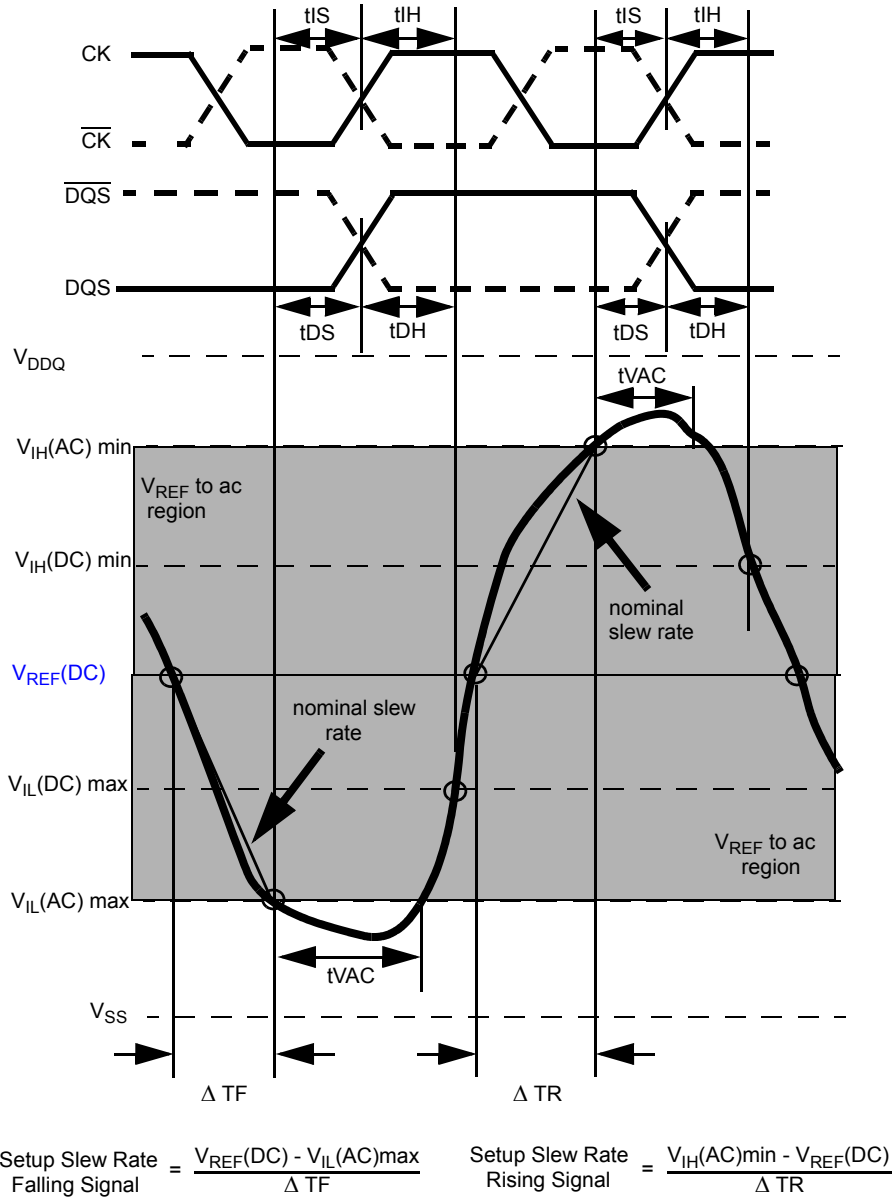
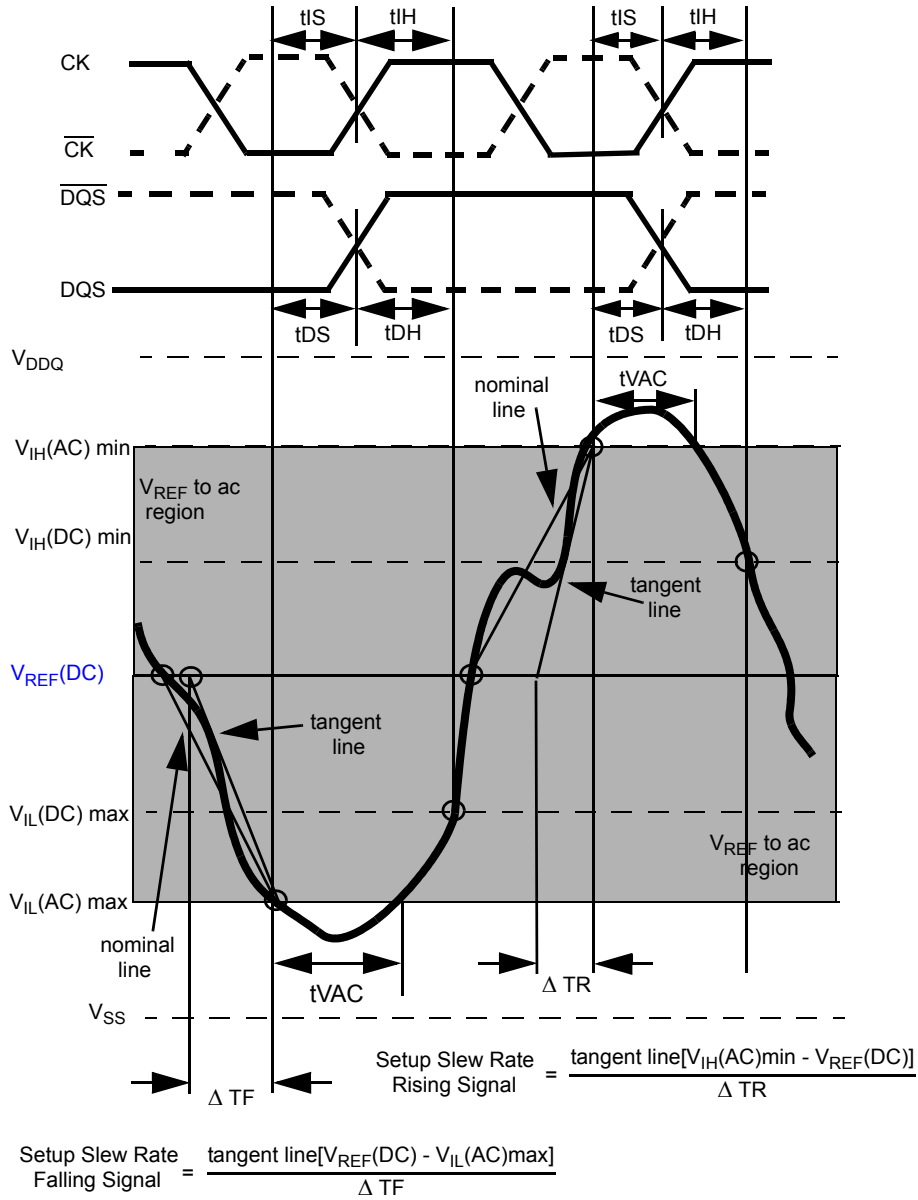

Figure 21. Illustration of nominal slew rate and tVAC for setup time tDS (for DQ with respect to strobe) and tIS (for ADD/CMD with respect to clock).
Figure 23. Illustration of tangent line for setup time t_{DS} (for DQ with respect to strobe) and t_{IS} (for ADD/CMD with respect to clock)
Example: tIS (total setup time) = tIS(base) + ΔtIS Setup (tIS) nominal slew rate for a rising signal is defined as the slew rate between the last crossing of V_{REF}(DC) and the first crossing of V_{IH}(AC)min. Setup (tIS) nominal slew rate for a falling signal is defined as the slew rate between the last crossing of V_{REF}(DC) and the first crossing of V_{IL}(AC)max. If the actual signal is always earlier than the nominal slew rate line between shaded 'V_{REF}(DC) to ac region', use nominal slew rate for derating value (see Figure 21). If the actual signal is later than the nominal slew rate line anywhere between shaded 'V_{REF}(DC) to ac region', the slew rate of a tangent line to the actual signal from the ac level to dc level is used for derating value (see Figure 23).